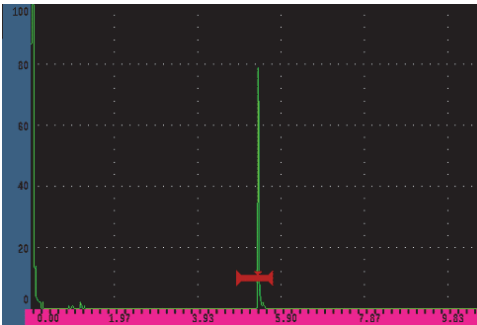

**Figure 6-3 Selecting the x-axis grid mode**
2. Press NEXT to move the focus to the **X-Axis Grid Mode** parameter (see Figure 6-3 on page 132).